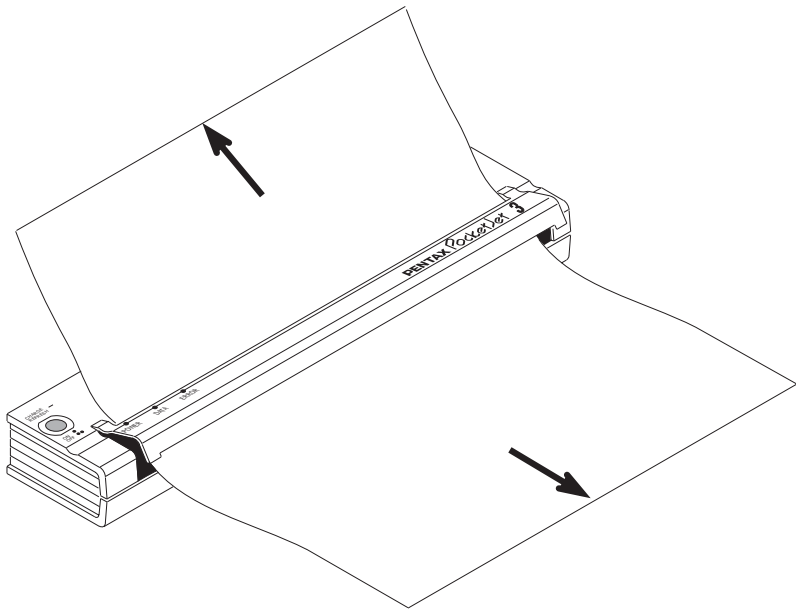

FIGURE 16. Pulling jammed paper out of the printer
2. Gently pull the paper out of the printer. Pulling in either direction is acceptable. See Figure 16.